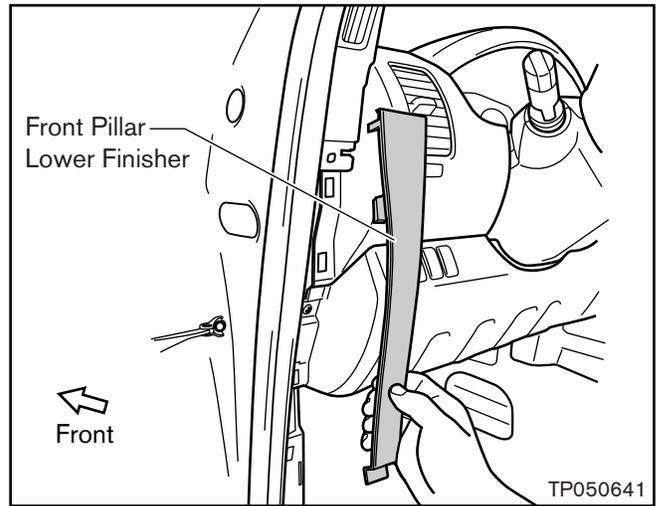

Figure 12
5. Carefully remove the Front Pillar Lower Finisher by pulling it rearward to release the Securing Clips (see Figure 12).